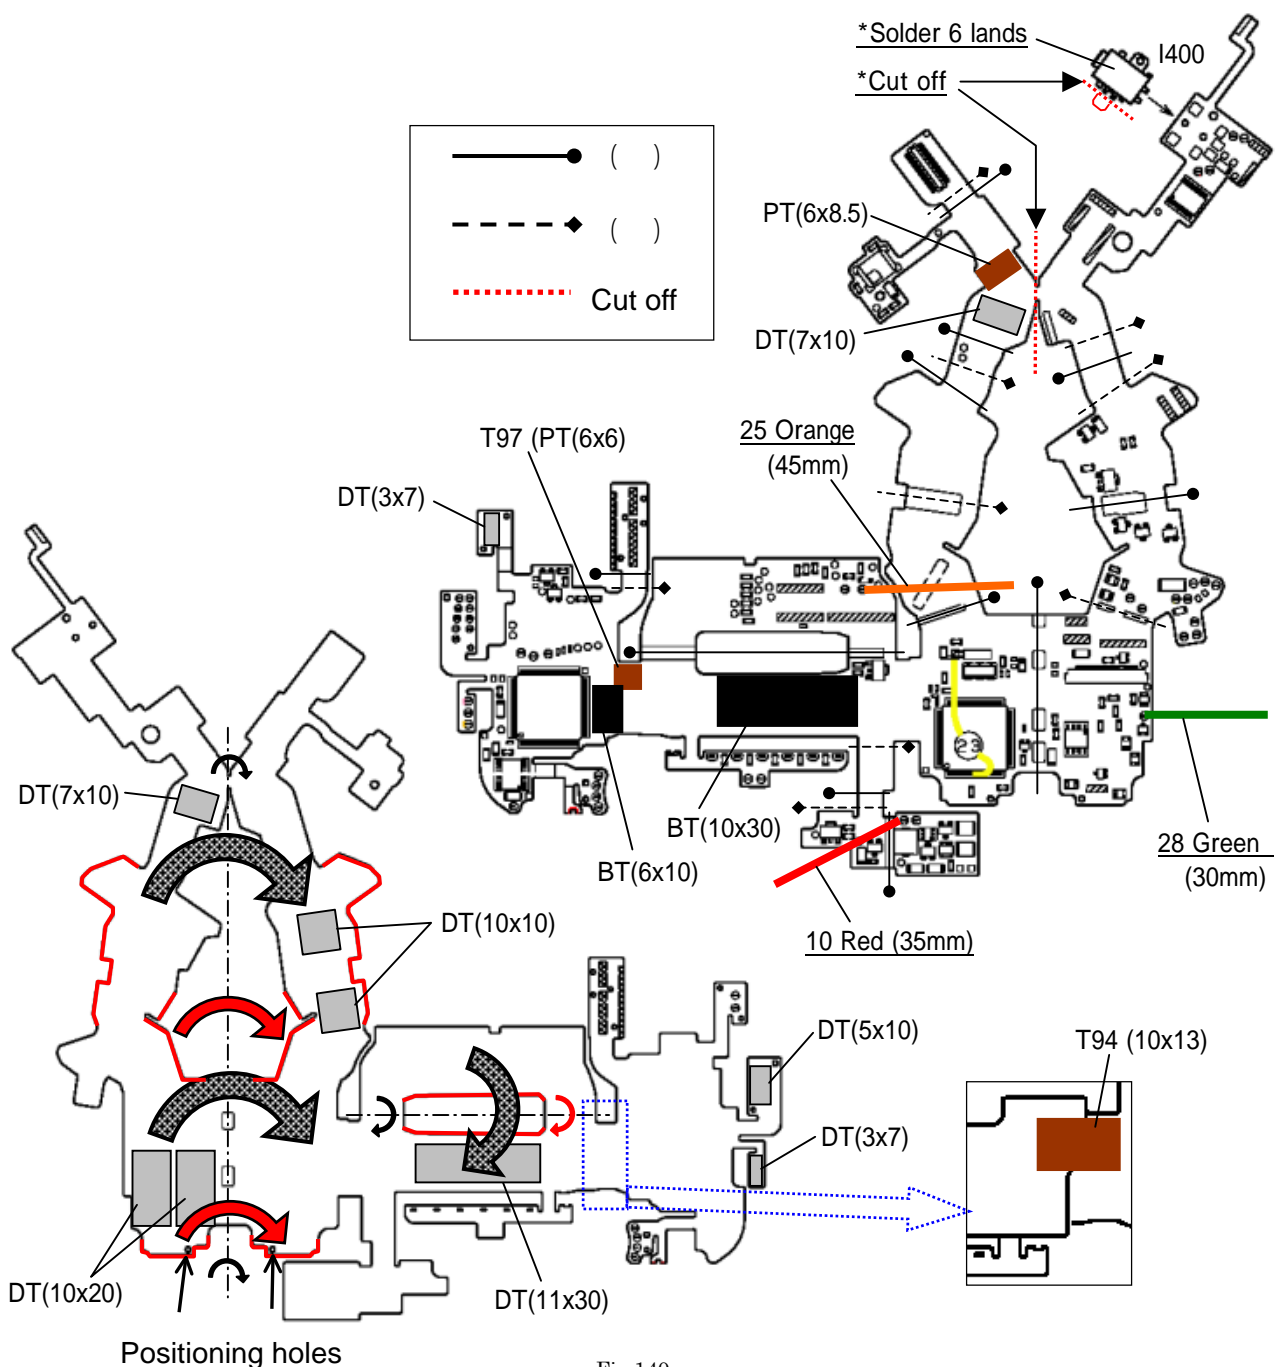

Fig.140
- 2) Solder 3 lead wires (Red, Orange, Green) as shown in Fig.140.
- 6) Fold up 0-T100 while aligning the positioning holes indicated by allow in Fig.140, and then stick the flexible boards together by DT.